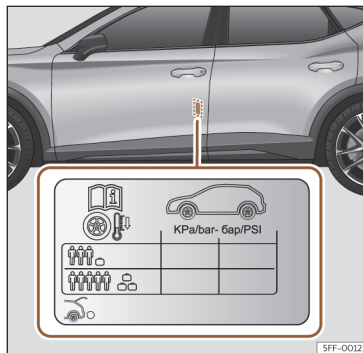

Fig. 219 Location of the tyre pressure sticker.
- Adjust tyre pressure to the load being carried by the vehicle >>> **Fig. 219**.
The values of the tyre pressure are shown on the sticker label located on the rear frame of the front left door >>> **Fig. 219**.
The tyre pressure must be adjusted according to the load the vehicle is carrying. If the vehicle is going to be fully loaded, increase the tyre pressure to the maximum load value shown on the sticker label >>> **Fig. 219**.
In the case of a minimised temporary spare wheel (125/70 R16 or 125/70 R18) inflate to a pressure of 4.2 bar as indicated on the tyre pressure label >>> **Fig. 219**.
- The driver is responsible for ensuring that all of the vehicle tyres are correctly inflated to the right pressure. The recommended tyre pressure is indicated on the label >>> **Fig. 219**.
- Tyre pressure should be that indicated on the label when the tyres are cold at all times >>> **Fig. 219**.